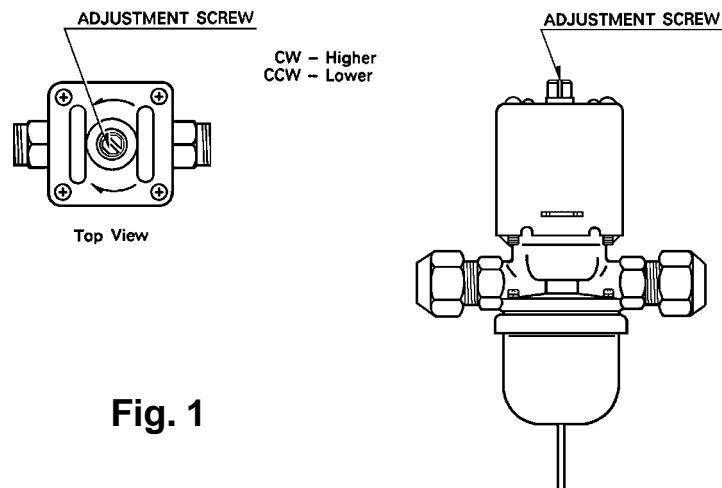

Fig. 1
- 2) Rotate the adjustment screw by using a flat blade screwdriver, so that the pressure gauge shows 270 PSIG or the thermometer reads 104-115 °F, 5 minutes after a freeze cycle or icemaking process starts. When the pressure exceeds 270 PSIG, or the condenser drain temperature exceeds 115 ° F, rotate the adjustment screw counterclockwise. See Fig. 1.